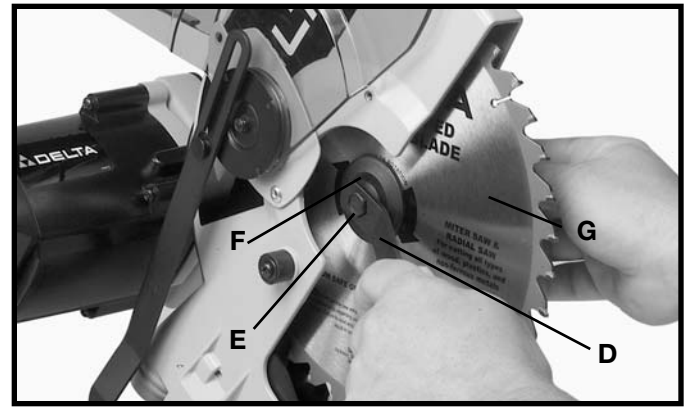

Fig. 48
4. Use the supplied wrench (D) Fig. 48 to loosen the arbor screw (E). Turn it clockwise.
5. Remove the arbor screw (E), outside blade flange (F), and saw blade (G) from the saw arbor.
6. Attach the new blade. **BE CERTAIN THAT THE TEETH OF THE SAW BLADE ARE POINTING DOWN AT THE FRONT.** Use the supplied wrench to attach the outside blade flange (F) Fig. 48, and the arbor screw (E). At the same time, depress the arbor lock to keep the blade from turning.